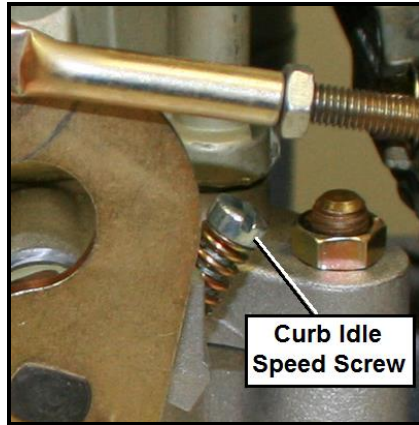

Figure 6
3. Now that the idle mixture is set, it may be necessary to go back and reset the idle speed using the curb idle speed screw, as shown in Figure 6.